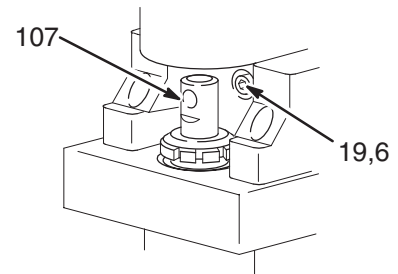
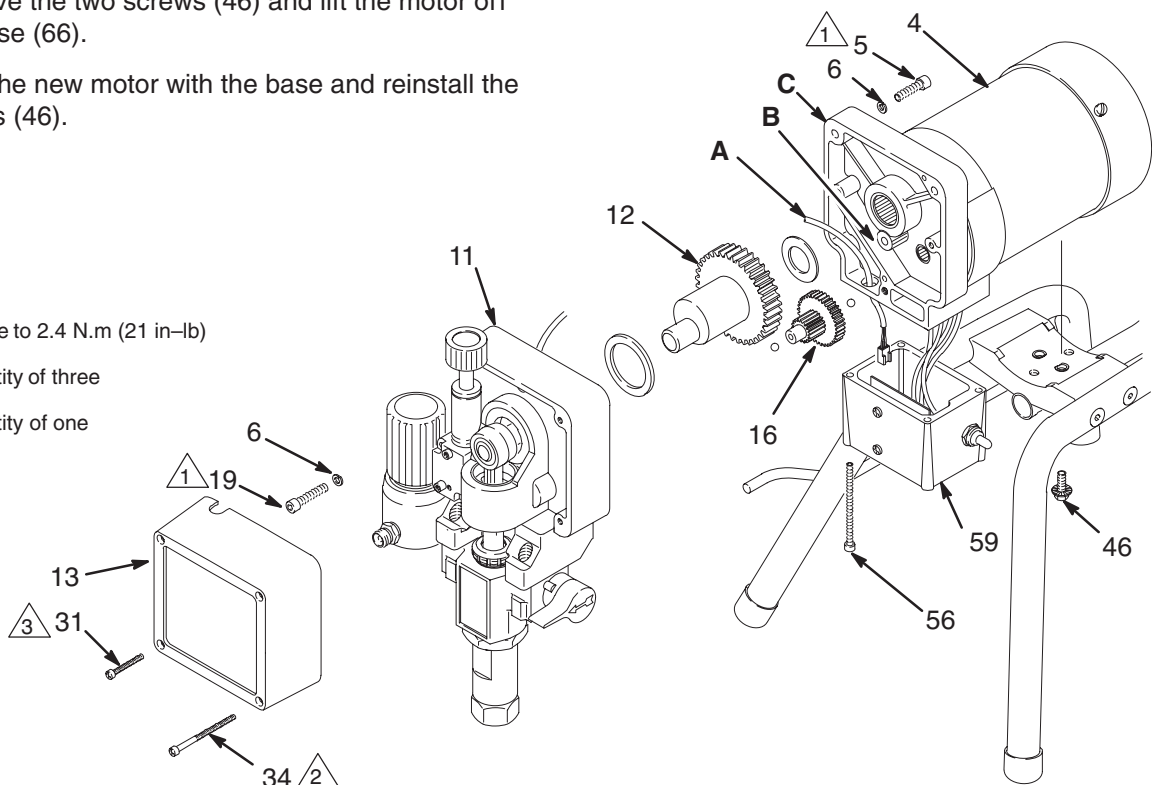
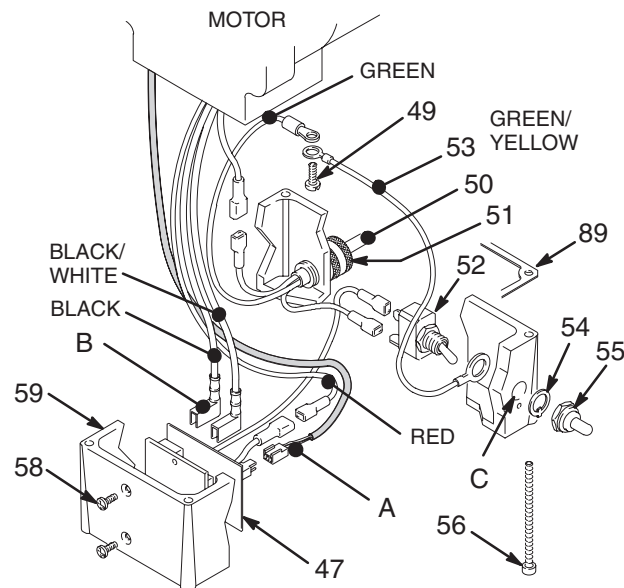

Fig. 12
Fig. 13
Fig. 14
**NOTE:** See Fig. 13 except where noted.
3. Remove the screws (56) and lower the junction box (59). Disconnect the motor wires and the pressure control wire (A) from the motor start board. Refer to Fig. 14 on page 14.
4. Remove the front cover (13).
5. Turn the displacement pump rod (107) so the pin hole aligns with the bottom drive housing screw (19). See Fig. 12. Remove the three drive housing screws and lockwashers (19,6). Also see Fig. 13.
6. Remove the two motor screws (5) and the lock washers (6).
7. Tap the lower rear of the drive housing (11) with a plastic mallet to loosen the motor. Pull the drive housing straight off the motor while guiding the harness (A) from the motor. Do not allow the gear (16) to fall. Read the CAUTION on page 15.
8. Remove the two screws (46) and lift the motor off the base (66).
9. Align the new motor with the base and reinstall the screws (46).
11. Connect the wires in the junction box. Refer to Fig. 14 on page 14. Install the junction box.
12. Connect the piston rod (107) to the drive housing; see page 12, **Installing the Pump**, Step 2 and the **WARNING** following it.
**NOTE:** See Fig. 14 for this procedure.
2. Remove the junction box screws (56) and lower the junction box (59).
3. Disconnect the motor wires (B) and the 3-wire connector (A) from the motor start board (47). Observe where connections are made.
4. Remove the screws (58) and motor start board (47). Transfer the white thermal paste from the old board to the new board.
5. Install the new motor start board. Reconnect all wires. Install the junction box. Be sure no leads are pinched against the motor or by the motor start board. Also be sure the gasket (89) is installed.
3. Disconnect the power supply cord leads, including the green wire to the grounding screw (49).
4. Loosen the strain relief bushing (51). Remove the power supply cord (50).
5. Install the new cord (50) in the reverse order of disassembly.
6. Install the junction box. Be sure no leads are pinched against the motor or by the motor start board. Also be sure the gasket (89) is installed.
3. Remove the nut and rubber boot (55).
4. Disconnect the black wires from the ON/OFF switch (52) and remove the switch.
5. Place the ring terminal of the ground wire (53) over the barrel of the new switch. Install the switch so the internal tab of the anti-rotation ring (54) engages with the vertical groove in the threads of the switch, and the external tab engages with the blind hole (C) of the junction box.
6. Powder the inside of the rubber boot (55) with talcum, then shake the excess out of the boot. Install the nut and rubber boot and tighten.
8. Install the junction box. Be sure no leads are pinched against the motor or by the motor start board. Also be sure the gasket (89) is installed.